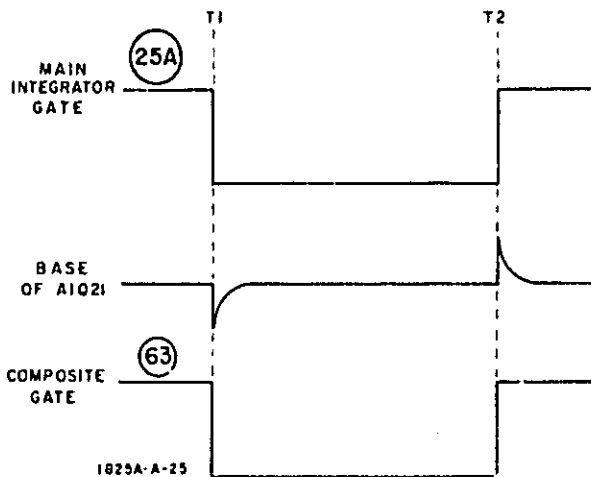

Figure 4-1. Sequence of Events, Main Mode Gate
4-87. In the quiescent state, A1Q22 is turned off. A1Q20 and A1Q21 are turned on. The circuit has been designed so that a pulse (square wave) from the main integrator to the base of A1Q20 will set the circuit midway between the upper and lower hysteresis limits. The Schmitt trigger is enabled and a small differentiated pulse on the base of A1Q21 will cause it to change states. The sequence of events for main mode is illustrated in figure 4-1. A1Q19 has been activated by  $-12.6$  volts applied to the emitter. At time  $t_1$ , a pulse arrives on line (25A) from the main integrator gate. The leading edge of the pulse is differentiated in the emitter circuit of A1Q19 and applied to the base of A1Q21. Since both conditions required to activate the Schmitt trigger are present simultaneously, the Schmitt trigger changes states and the composite gate on line (63) falls, turning on the CRT.
4-88. Removing the main integrator gate pulse from the base of A1Q20, or applying a positive-going pulse to the base of A1Q21 will reset the Schmitt. At the time  $t_2$  (figure 4-1) the main integrator pulse is removed. The trailing edge is differentiated in the emitter circuit. Since two conditions are present, either of which will reset the Schmitt trigger, the Schmitt trigger resets and the composite gate is terminated, turning off the CRT.